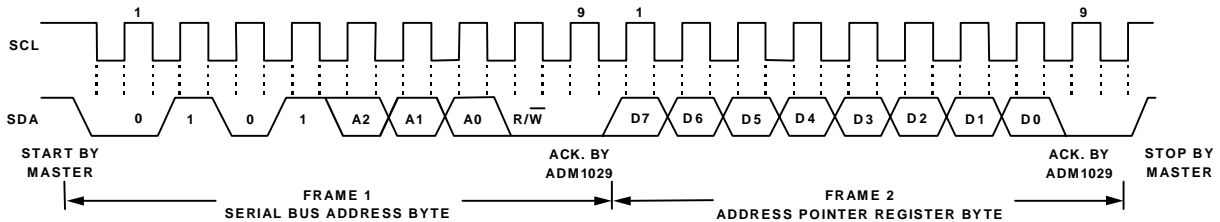

Figure 4b. Writing to the Address Pointer Register only
1. If the ADM1029's Address Pointer Register value is unknown or not the desired value, it is first necessary to set it to the correct value before data can be read from the desired data register. This is done by performing a write to the ADM1029 as before, but only the data byte containing the register address is sent, as data is not to be written to the register. This is shown in figure 4b.
2. If the Address Pointer Register is known to be already at the desired address, data can be read from the corresponding data register without first writing to the Address Pointer Register, so figure 4b can be omitted.